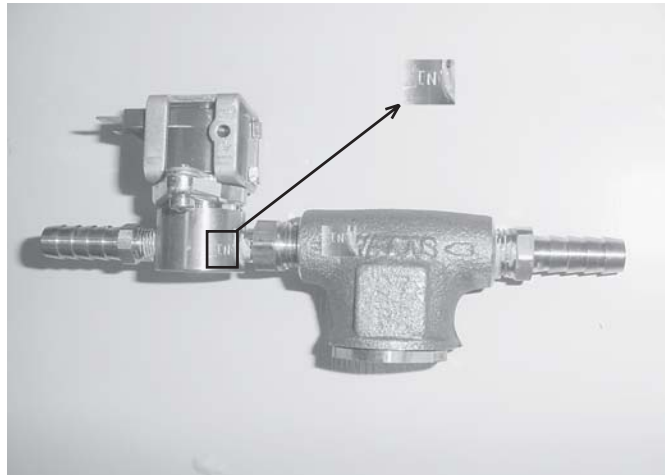

Figure 3-61
8. Put pipe sealant on threads and place fittings in new solenoid, making sure the strainer goes to the IN side of the solenoid. Figure 3-61, below.